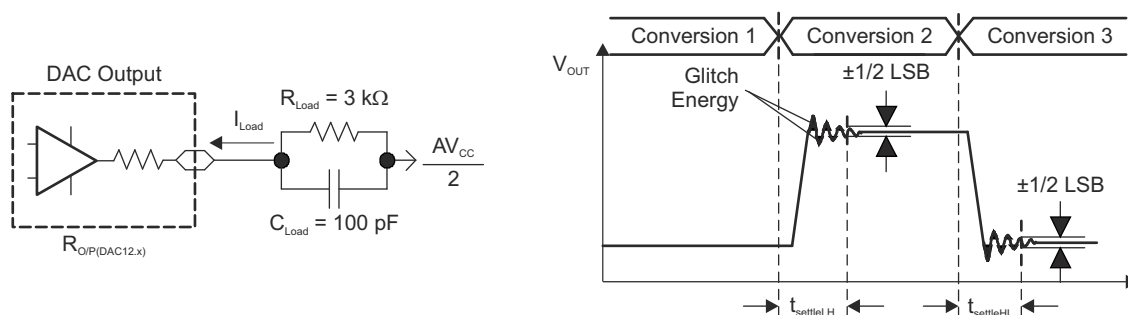
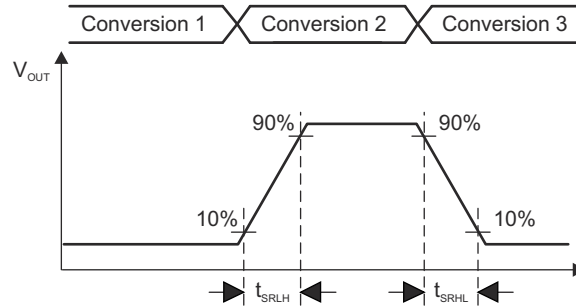

图 8-19. Settling Time and Glitch Energy Testing
图 8-20. Slew Rate Testing
V_{REF} = V_{CC}, DAC12IR = 1 (see 图 8-19 and 图 8-20), over recommended ranges of supply voltage and operating free-air temperature (unless otherwise noted)
(1) R_{Load} and C_{Load} connected to AV_{SS} (not AV_{CC}/2) in 图 8-19.
(2) Slew rate applies to output voltage steps ≥ 200 mV.